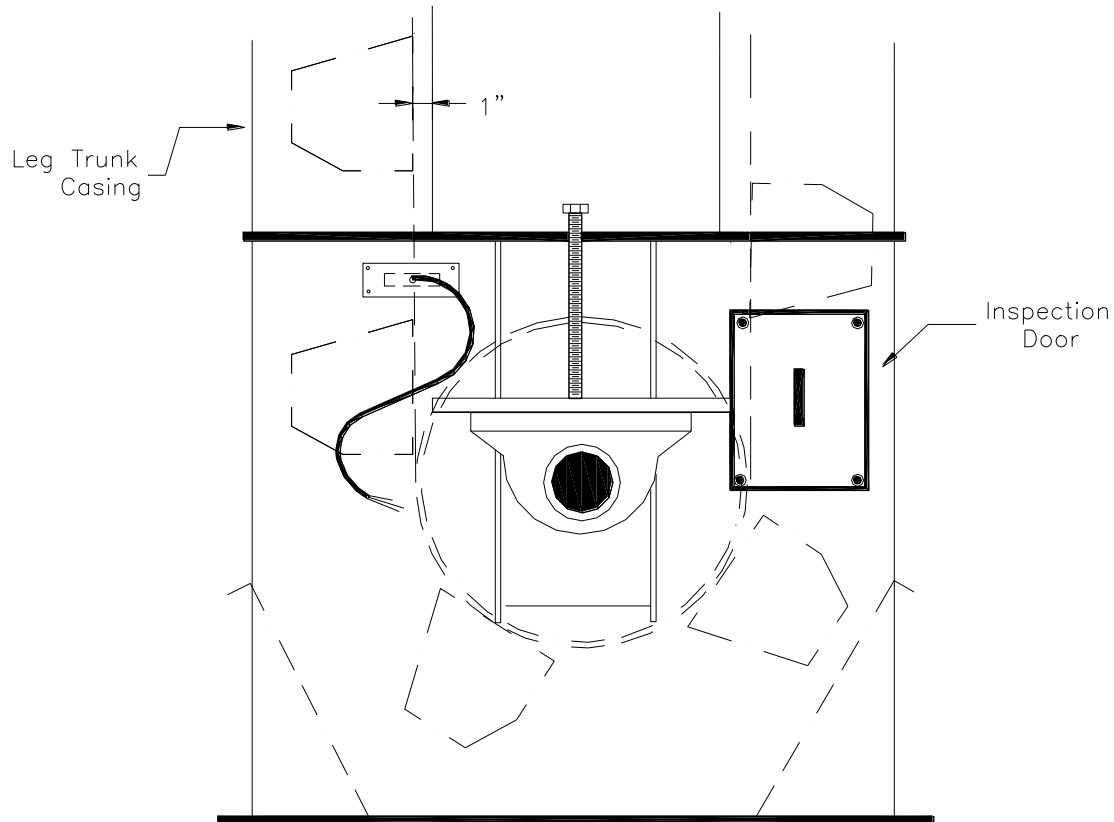

Figure 14. Rub Location on Elevator Boot
**4.6.1.2.2.** If you still cannot locate the exact track of the belt by the previous method, then the following alternative may help. Measure out one inch from the inside of the trunk casing of the leg. (See figure 14)